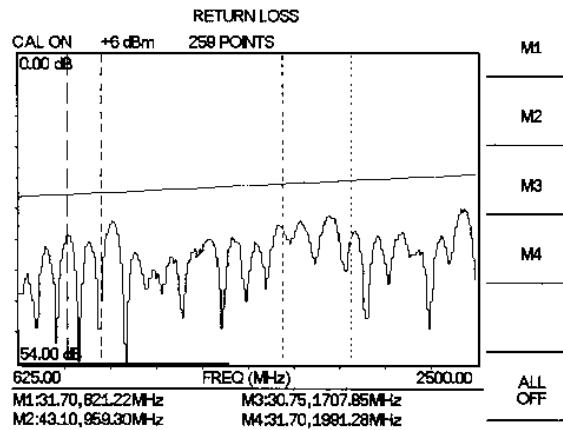

Figure 4-10. Cable SWR Measurement Results
**Step 17.** Observe the displayed measurement. Figures 4-10 and 4-11 show typical SWR and Return Loss measurements with markers and limit line set.
**Step 35.** Repeat steps 33 and 34 for markers M2, M3, and M4. Set M2 to 960 MHz, M3 to 1710 MHz, and M4 to 1990 MHz. (Figures 4-10 and 4-11 depict the SWR and Return Loss measurements).